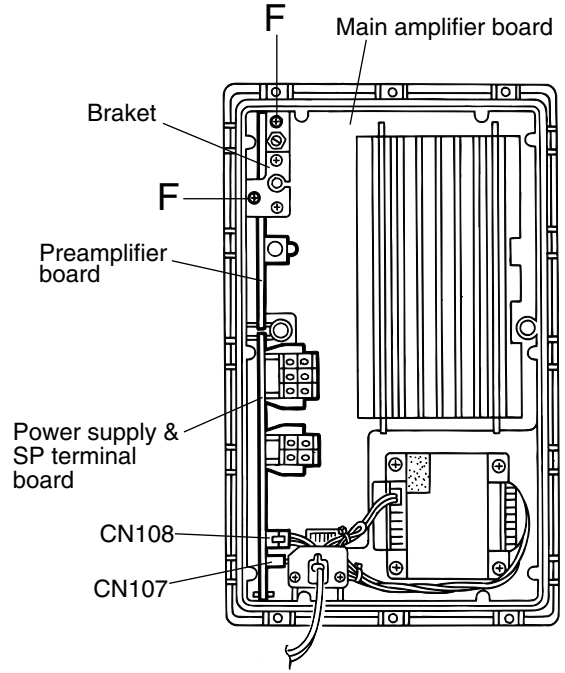

Fig.4
(See Figs.4 to 6)**
**■ Removing the power supply & SP terminal board (See Figs.4 and 5)**